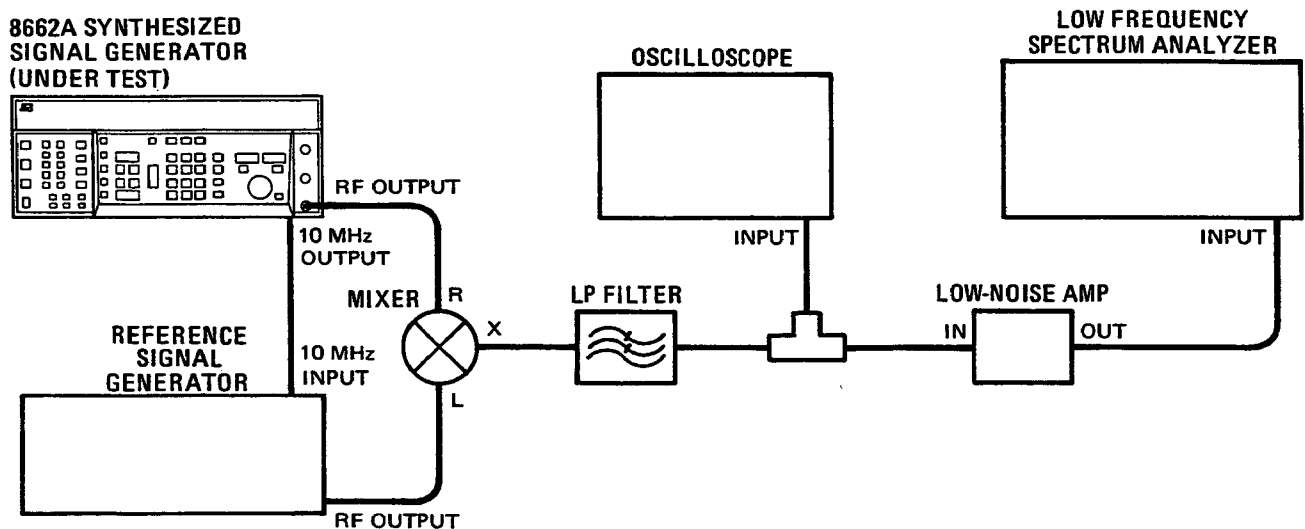

Figure 4-5. SSB Phase Noise Test Setup (Optional)
- PROCEDURE: 1. Connect the equipment as shown in Figure 4-5. The LP filter should have a bandwidth more than 10 times greater than the offset frequency where phase noise will be measured.